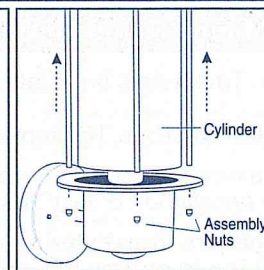

Figure 12
- For Cylinder fixtures, unscrew the assembly nuts from bottom, lift body of fixture slightly. Insert bulb. Reattach body using assembly nuts (see figure 12).